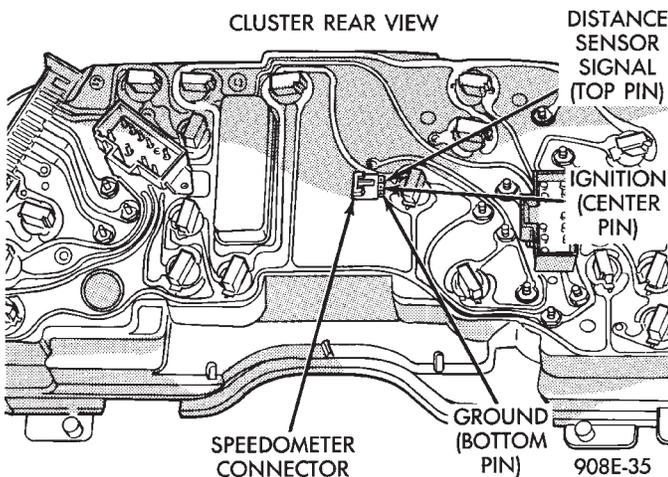

Fig. 18 Speedometer
(1) Using DRB II, check vehicle speed sensor for distance sensor fault code and for proper speed indication. Refer to Powertrain Diagnostics Procedure Manual; Speed Control Test (Fig. 18).
(2) Remove cluster, but do not disconnect cluster wiring.
(3) With ignition ON check for battery voltage across the ignition pin and ground pin of speedometer connector.